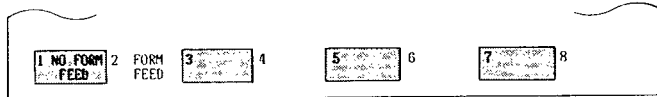

Fig. 7.17
3. When **PRINTER TYPE** in the ATTACH display (Fig. 7.15) is depressed, the label display changes to that shown in Fig. 7.17 below.